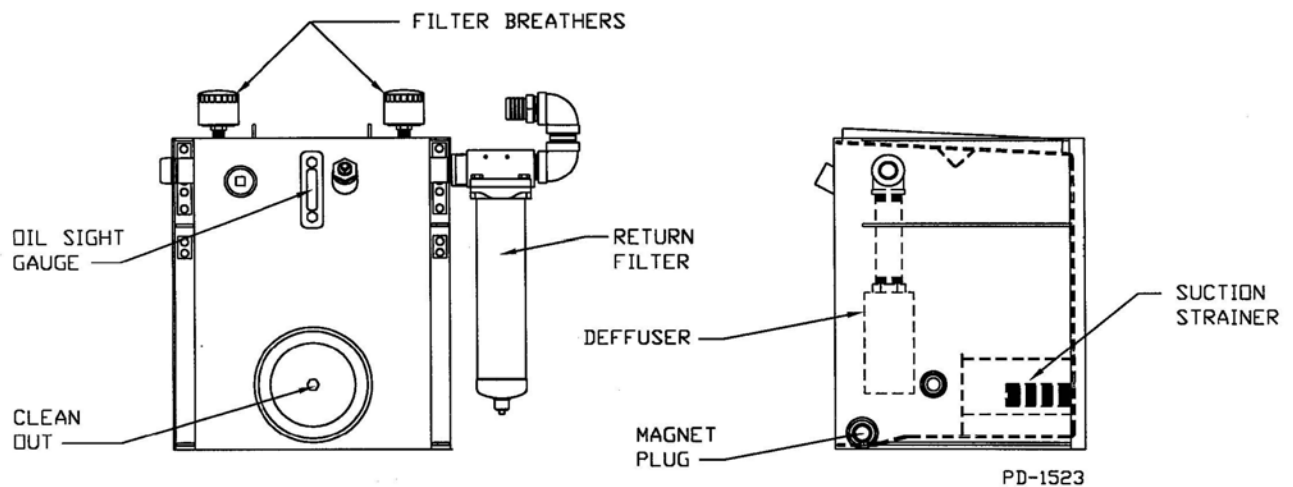

FIGURE M-1
The oil supply tank is the storage place of the life blood of the hydraulic system. Careful maintenance and inspection at this point will materially increase the longevity of the unit and keep repairs to a minimum. The tank for the hydraulic oil supply is located on the streetside chassis frame rail. Check oil supply daily, making sure oil level is at mid-way point on the oil sight gauge (See Figure M-1). When checking, have the unit setting level, oil at a normal operating temperature, all cylinders in the retracted position and the pump not operating.
Located on top of oil tank (See Figure M-1) are two (2) filter breather caps. These caps are for the ease of replacing or adding oil and allows the free exchange of filtered air to and from the tank, as the level of oil fluctuates. It is important that these caps be kept clean and in place. Before removing these caps make sure the area is clean, as any foreign materials allowed into the oil supply can cause expensive down time and repairs.